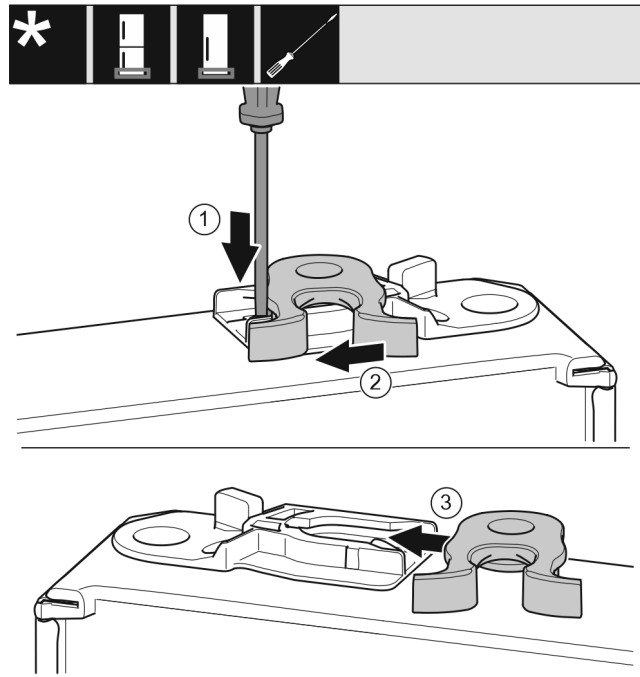

Fig. 23
- Use a slotted screwdriver to push the tab Fig. 23 (1) downwards.
- Pull the closing hook Fig. 23 (2) out of the guide.
- Insert the closing hook Fig. 23 (3) into the guide on the other side.